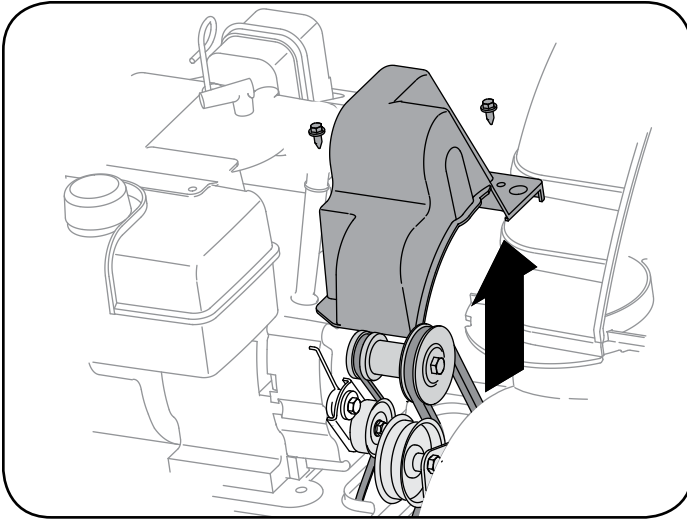

Figure 13
1. Remove belt cover by removing the two self-tapping screws that secure it to the snow thrower housing. See Figure 13.